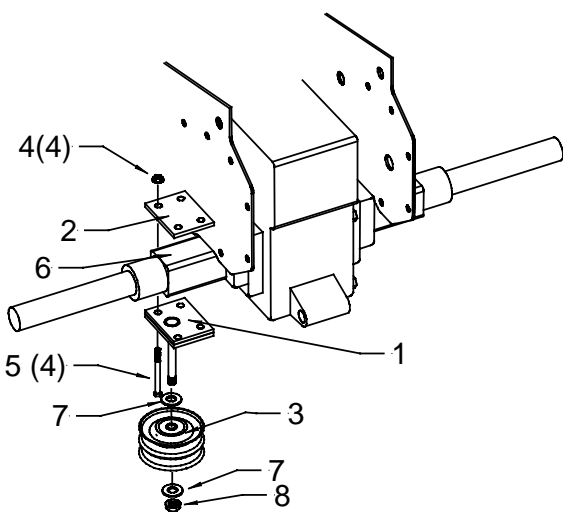

Figure 3
1. Install the mounting plate under the left side rear axle. Hold in place with fixation plate on top of axle and secure with four hex bolts 3/8 x 3 1/2" (89mm.) and flange nuts. Tighten loosely (fig. 3).
2. Slide plate to edge of square portion of axle. Tighten the bolts securely (fig. 3).
3. Install the double idler and hold in place with one flat washer on top of idler and one flat washer on bottom. Secure with lock nut (nylon). Tighten securely (fig. 3).
1. Remove the four bolts and detach the plate where R.O.P. is attached to the left side of the tractor's axle. Install the mounting plate where the original plate was installed **with the same R.O.P. mounting bolts**, lockwashers and nuts. Tighten securely (fig.3).
2. Install the double idler and hold in place with one flat washer on top of idler and one on bottom. Secure with lock nut (nylon) (fig. 3). Tighten securely.